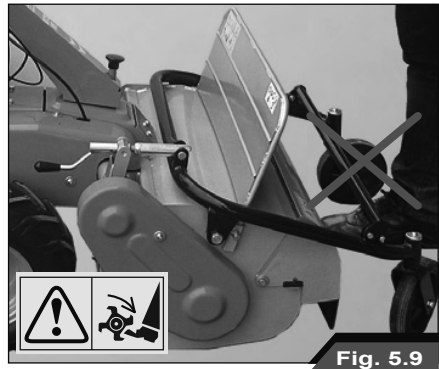

**Fig. 5.8**
**It is necessary to use two hands to unhook this lever, which is otherwise secured with a lock (Fig. 5.8).**